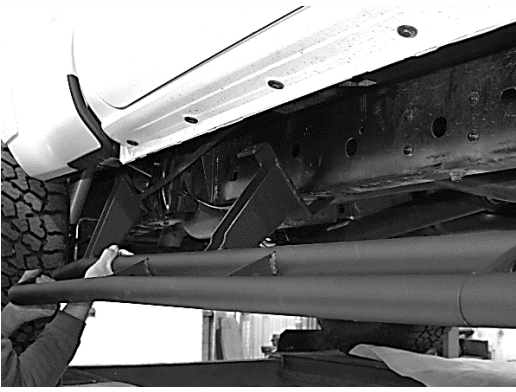

Figure 5
4. With the help of a second person, lift the **Rock Rail Assembly** up to the vehicle frame (**Refer to Figure 5**) while passing the **Bolt Leader** through the hole of the rear bracket. Guide the rear bracket over the brake line, onto the **Carriage Bolt**, and up to the frame surface while keeping the front end of the **Rock Rail Assembly** low enough to avoid hitting the **Carriage Bolts** at the front end of the frame. **Refer to Figure 6**. Once the rear bracket is against the frame, pull the **Bolt Leader** off of the **M10x30mm Carriage Bolt** and carefully (not to let the bolt fall back through the hole) secure the bolt with a **Large OD 10mm Washer** and **10mm Hex Nut**. Do not fully tighten.